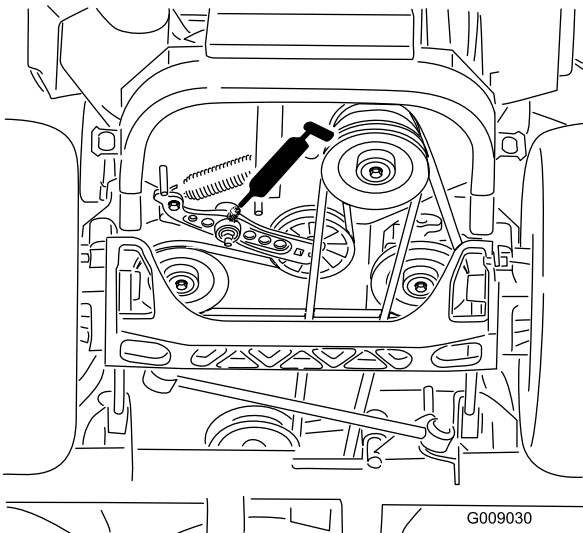

Figure 45
5. Grease the drive-belt-idler arm (Figure 45).